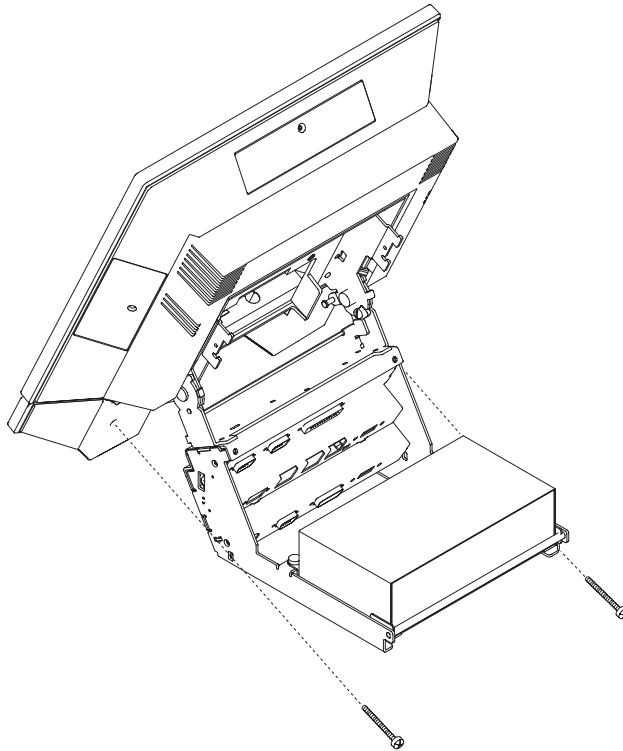

Figure 59. Removing the stereo-speaker kit
1. Tilt the display to its vertical position and detach the speaker kit from the bottom of the display (two screws) as shown in Figure 59.